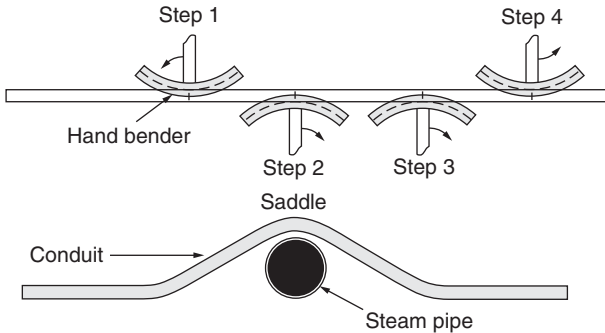

FIGURE 8-20. Steps in bending to have conduit go over or under a steam pipe.
- **Saddle**—when a small obstruction, such as a pipe, must be crossed by the conduit. It may be necessary to use two offsets to cross some larger objects. See Figure 8-20 and Table 8-5.